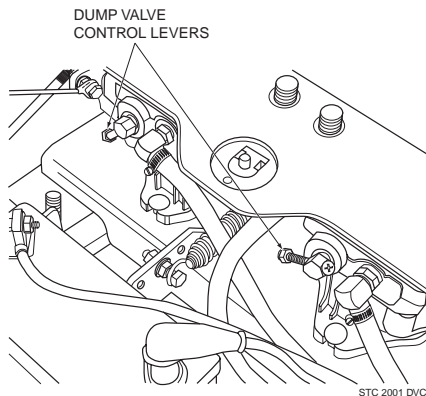

Figure 4-2. Dump Valve Control
11. **Dump Valve Control Levers (Figure 4-2).** Located on the hydraulic pumps, used to "free-wheel" the mower. Rotating the levers clockwise until they stop (closed) allows the unit to move under hydraulic power. The levers must be in this position and torqued to 10 lb-ft during operation of the mower. Rotating the levers counter-clockwise (open) allows the mower to be moved by hand (free-wheeling).